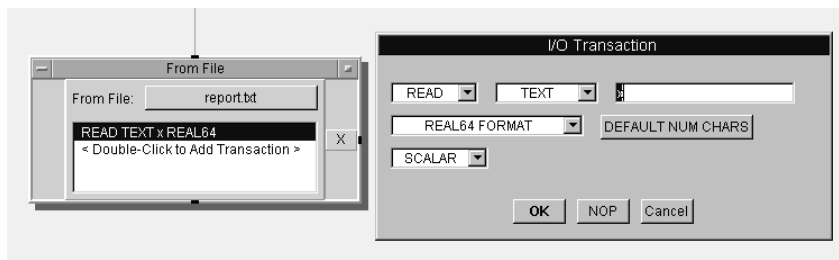

Figure 2.9. The FromFile Transaction dialog box
18. Insert an I/O transaction into FromFile by double-clicking on ‘Double-Click to Add Transaction’. Change the settings as shown in Figure 2.9.